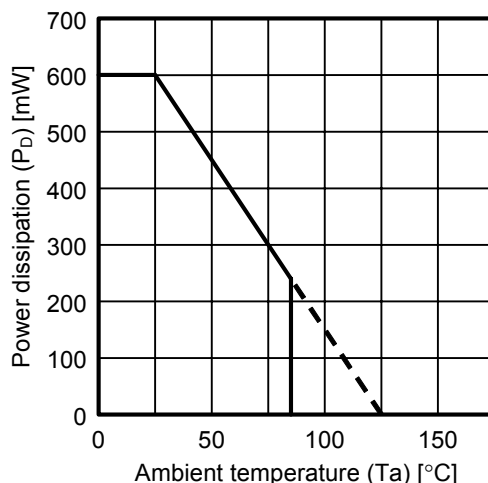

Figure 3 Power Dissipation of Package (Mounted on Board)
- Since this IC has a built-in power MOS FET, make sure that dissipation of the power MOS FET does not exceed the allowable power dissipation of the package. (Refer to Figure 3.) Generally, dissipation of a switching regulator can be calculated by the following equation.